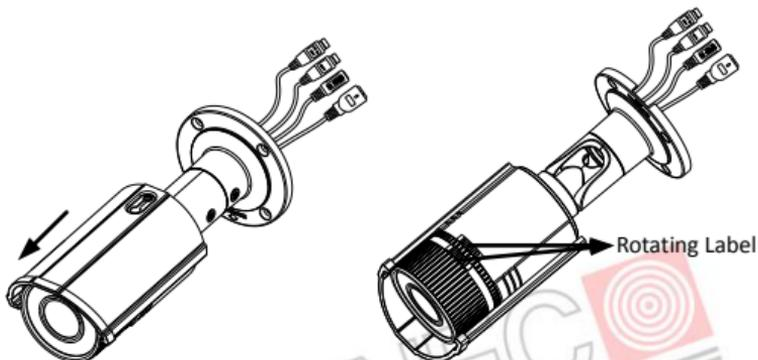

Figure 2-3 Assemble the Camera
6. Slide the sun shield according to the arrow direction as shown in Figure 2-3(left).
Note: For water-proof, please align the rotating label on the front cover with that on the camera when you rotate the front cover clockwise. Refer to Figure 2-3(right).